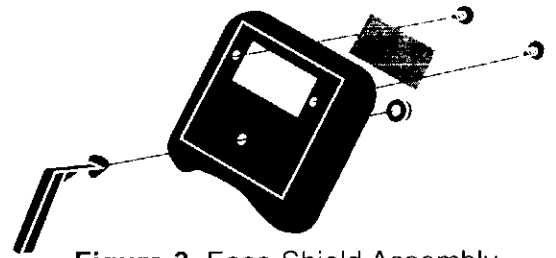

Figure 3. Face Shield Assembly
5. From inside of shield, screw the shield handle nut tightly onto peg threads. See Figure 3 for face shield assembly.